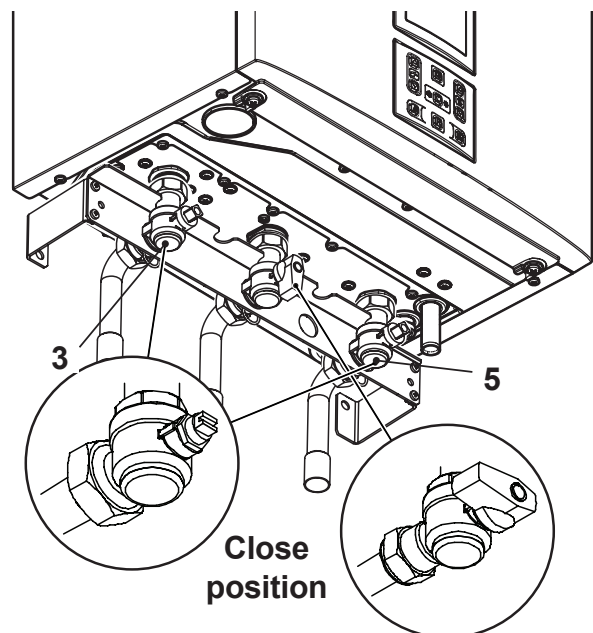

Fig. 9.9
- Close the c.h. isolating valves (3 and 5 in Fig. 9.9).